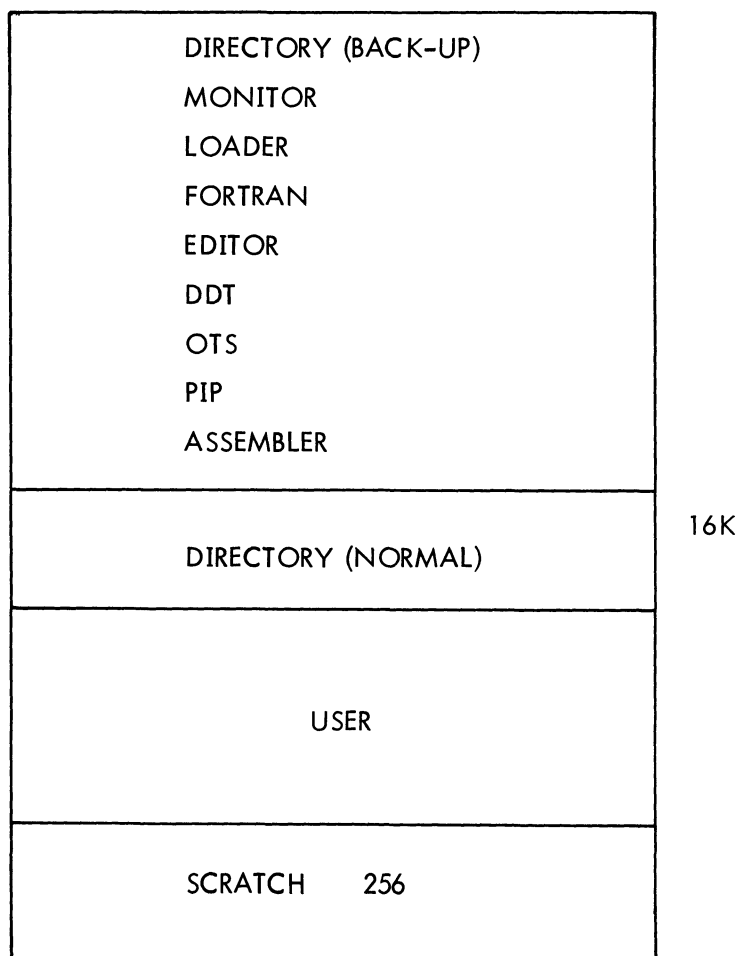

Figure 2 Mass Storage Configuration
5.2.1 File Structure - A relatively sophisticated file structure is implemented to allow for automatic retrieval of storage for use by the system and a requirement for a single DECtape system. (See Figure 2.) Two types of blocks are present - directory name (DN), and storage allocation map (SAM) blocks. The former are described in Figure 3, the latter in Figure 4. All blocks are linked with the end of chain line - 0. The top of the SAM block chain is addressed in all DN blocks. The SAM block is the item which allows automatic storage retrieval. Each DN entry has a SAM number between $1-77_8$. A zero means unused. A SAM block has a record of 256_{10} pages of mass storage (Figure 4). The first page of any numbered program is found by searching SAM blocks until an entry with matching number is found. To add to a file, find a SAM block entry equal to 0, insert the correct SAM number and adjust the storage block linking. To delete a block, the DN entry is cleared and the SAM block entries (equal to the DN number) are zeroed out.